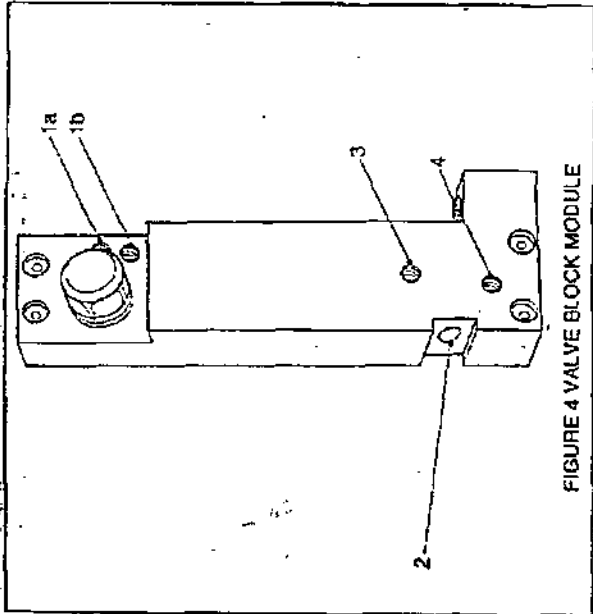

FIGURE 4 VALVE BLOCK MODULE
**Simple Control Valve (Figure 4)**
This control valve block module is used when the tool is to be controlled remotely. Figure 4 details the signal originations.